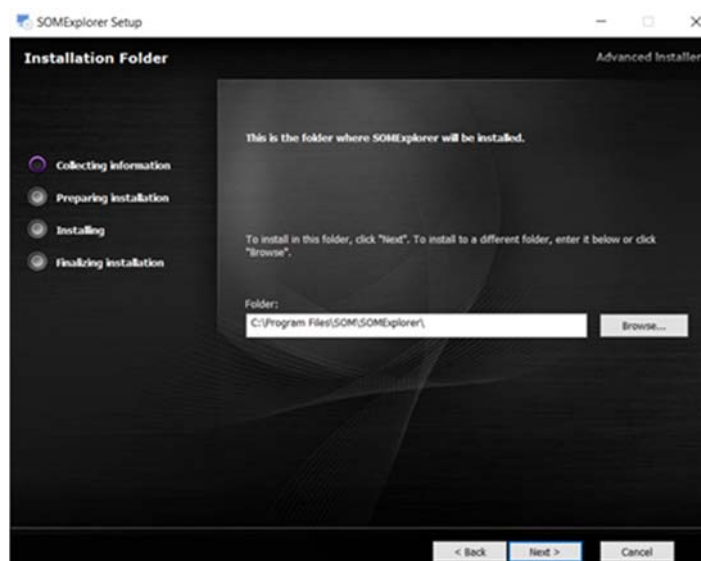

Figure 3 – Window for specifying the directory where the «SOMExplorer» program is located
2.4 To continue installing the program in the main window, click on the “Next>” button, and a window should appear (Figure 3) and you need to select the directory in which the program will be installed (by default, the directory is C:\Program Files\SOM\SOMExplorer is selected).